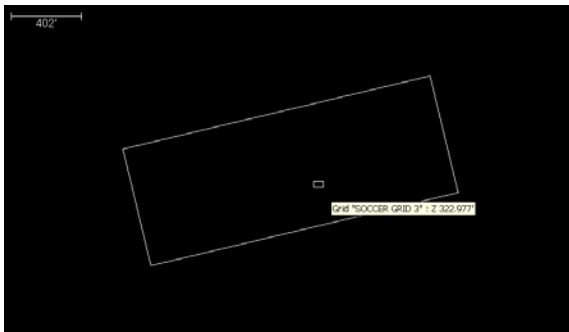

Figure 8-8. Display the 'Z' Elevation of the Grid Surface
2. Select an area of the grid surface and right-click on the mouse to display the elevation of the grid surface (Figure 8-8).